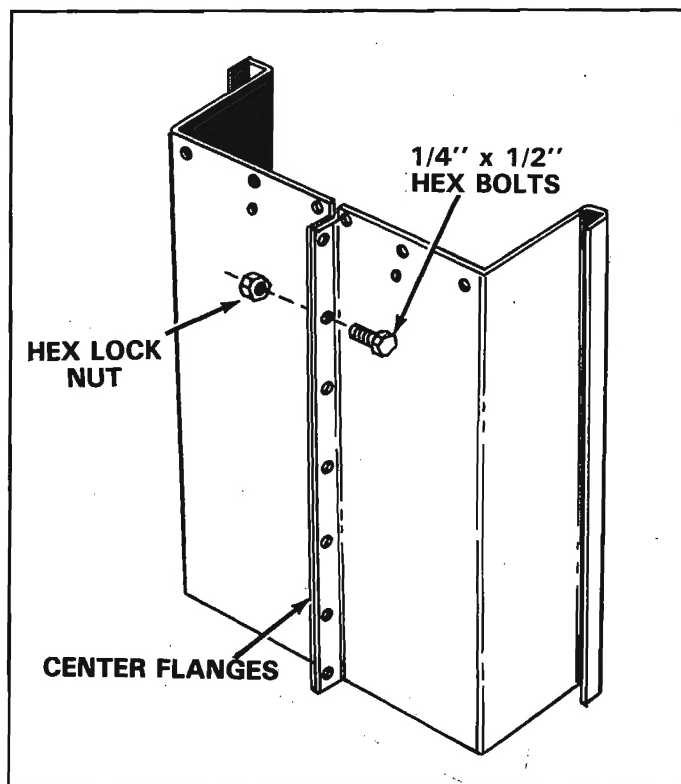

FIGURE 2
2. Position cart body halves upright as shown in figure 2.
3. Start 1/4" x 1/2" hex bolts and 1/4" hex lock nuts through flanges, only make finger tight until all six (6) bolts are in place. See figure 2. **Tighten all six (6) bolts.**